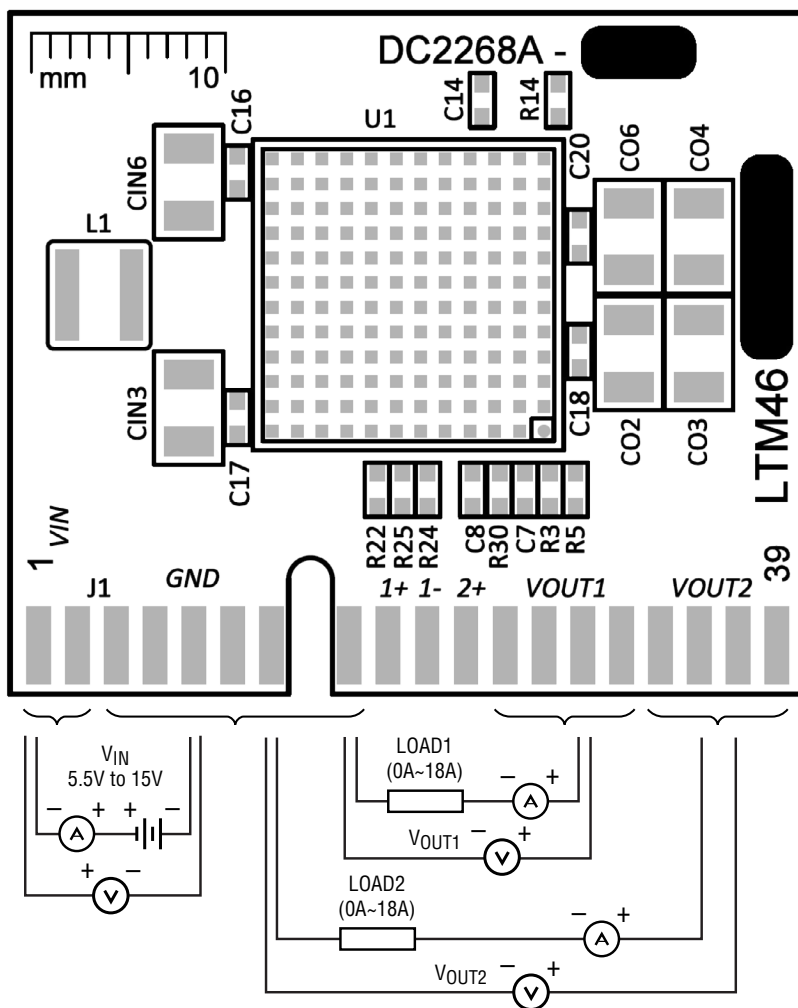

Figure 2. Test Setup of DC2268A-F
DC2268A-F is easy to set up to evaluate the performance of the LTM4630A. It can be easily inserted to an edge connector (SAMTEC MEC2-20-01-L-DV--TR) for testing and debugging. Please refer to Figure 2 for proper measurement setup and follow the procedure below:
2. With power off, connect the input power supply, load and meters as shown in Figure 2. Preset the load to 0A and  $V_{IN}$  supply to 12V.